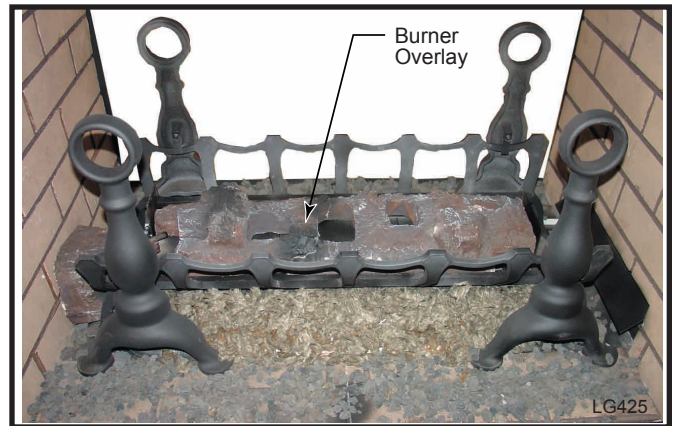

**Fig. 43** Lava rock and ember placement.
3. Place the volcanic rock over the lower refractory in front of each burner tube assembly and around the burner assembly as desired. (Fig. 43) Do not obstruct fresh air inlet with volcanic rock.